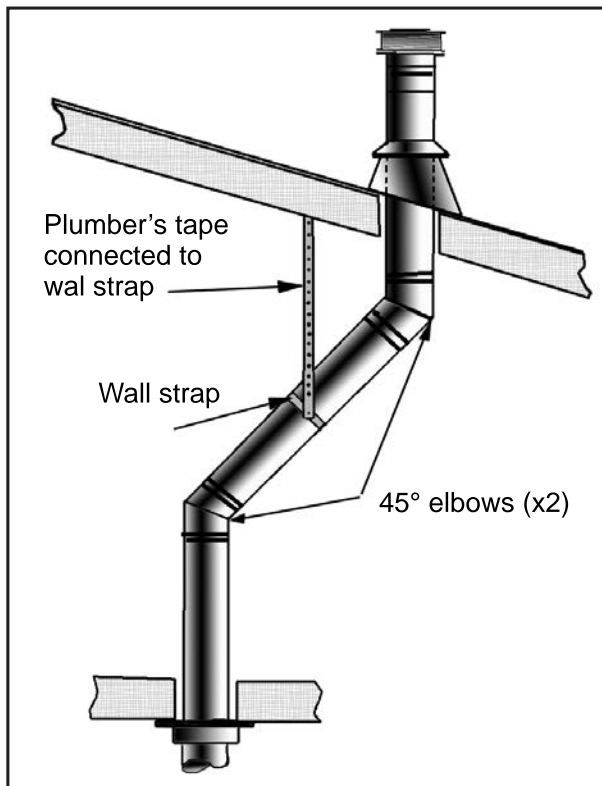
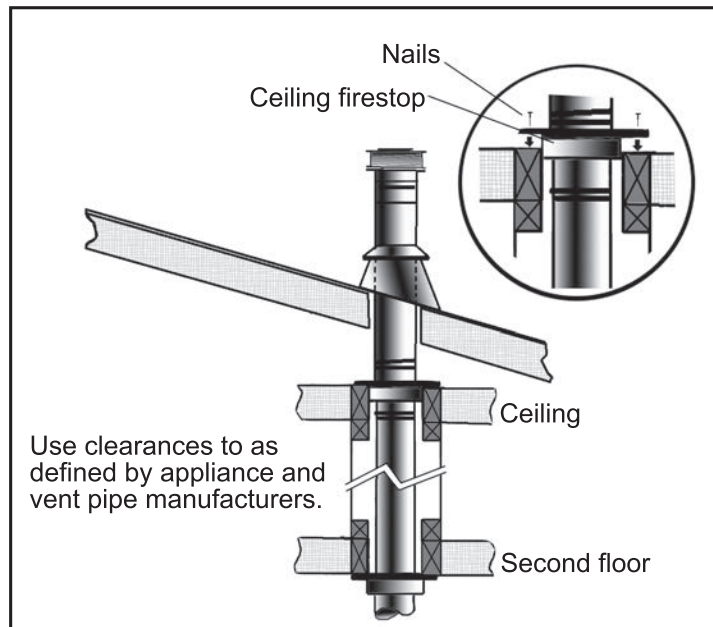

Figure 61: Use of Wall Straps.
Figure 62: Multi-Story Vent Pipe Installation.
Table 8: Minimum 'H' for Figure 61.
- (1) If an offset is necessary in the attic to avoid obstructions, it is important to support the vent pipe every 3 feet (914 mm), to avoid excessive stress on the elbows, and possible separation. Wall straps are available for this purpose (see Figure 61).
- (2) When ever possible, use 45° degree elbows instead of 90° degree elbows. The 45° degree elbow offers less restriction to the flow of flue gases and intake air.
- (3) For multi story installations; a ceiling firestop is required at the second floor, and any subsequent floors (see Figure 62). The opening should be framed to 10" (254 mm) x 10" (254 mm) inside dimensions, in the same manner as shown in Figure 50.
- (4) Any occupied areas above the first floor, including closets and storage spaces, which the vertical vent passes through, must be enclosed. The enclosure may be framed and sheet-rocked with standard building materials. However consult the appliance manufactures installation instructions for the minimum allowable clearance between the outside of the vent pipe, and the combustibile surfaces of the enclosure. Do not fill any required air spaces with insulation.